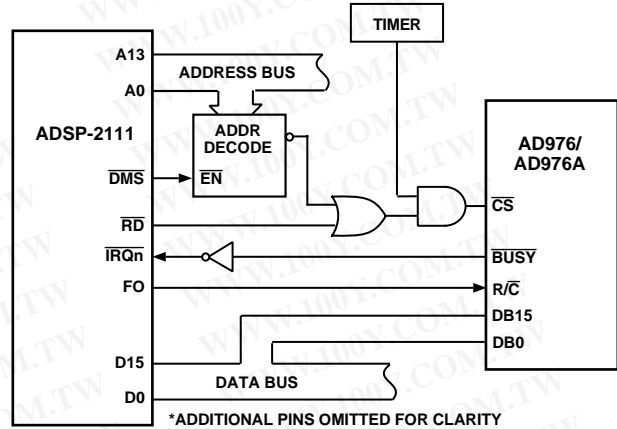

Figure 23. AD976/AD976A to ADSP-2111 Interface
Figure 23 shows an interface to the ADSP-2111 signal processor. In this example,  $\overline{CS}$  is being used to control conversions and is generated by an external timer. A conversion is initiated each time the timer output goes low as long as you are not reading from the AD976/AD976A and while the Flag Output (FO) pin of the ADSP-2111 is low. When a conversion is complete, the  $\overline{BUSY}$  line will return high. With the  $\overline{IRQn}$  pin programmed to generate an interrupt on a high-to-low transition, an interrupt will occur at the end of each conversion. The 16-bit result of the conversion can be read from within the interrupt service routine by first forcing FO high, then performing a read operation with the AD976/AD976A.